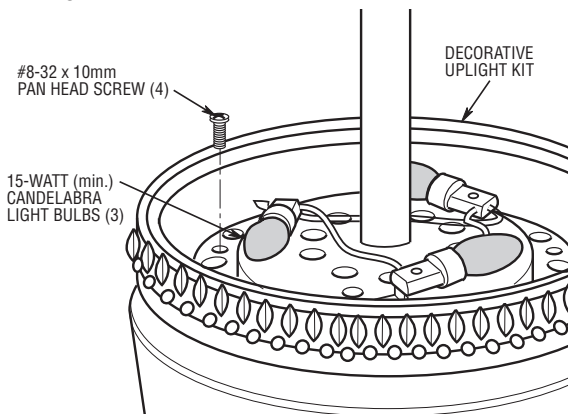

Figure 8
- 20. Secure the decorative uplight kit assembly to the motor housing using four #8-32 x 10mm pan head screws (supplied) (Figure 8).
- 21. Install three 15-watt (minimum) (not supplied) candelabra light bulbs in the uplight sockets (Figure 8).